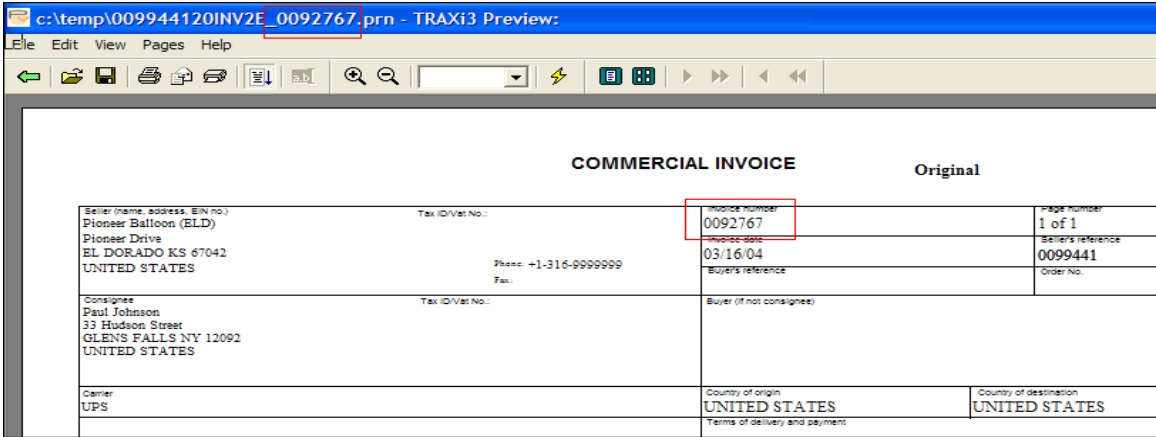

Figure 2: Print Preview of an invoice document and the filename displayed on the first line on the preview window shows the invoice number included
- Add the new token and print preview (invoice number should appear in heading of print preview – per Figure 2 on next page)